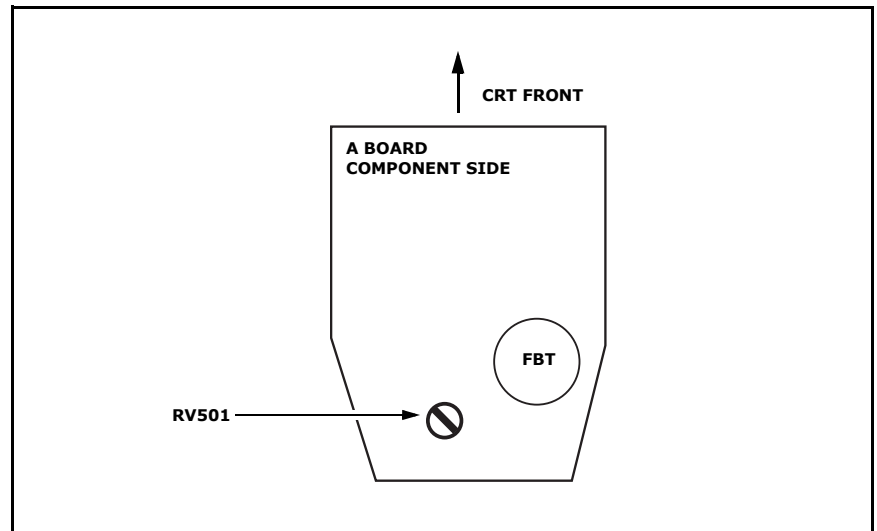

Figure 1
2. Feed a CCIR (625) signal.
3. On the A Board, Side A (See Figure 1), adjust RV501 (V HOLD) until the picture is steady.